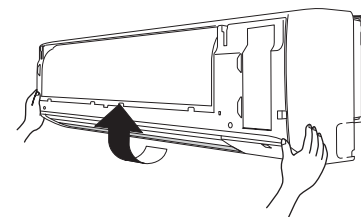

Fig. 1-69
- (6) Lift up the grille in the direction shown by the arrow and pull the grille towards you to remove it. (Fig. 1-69)